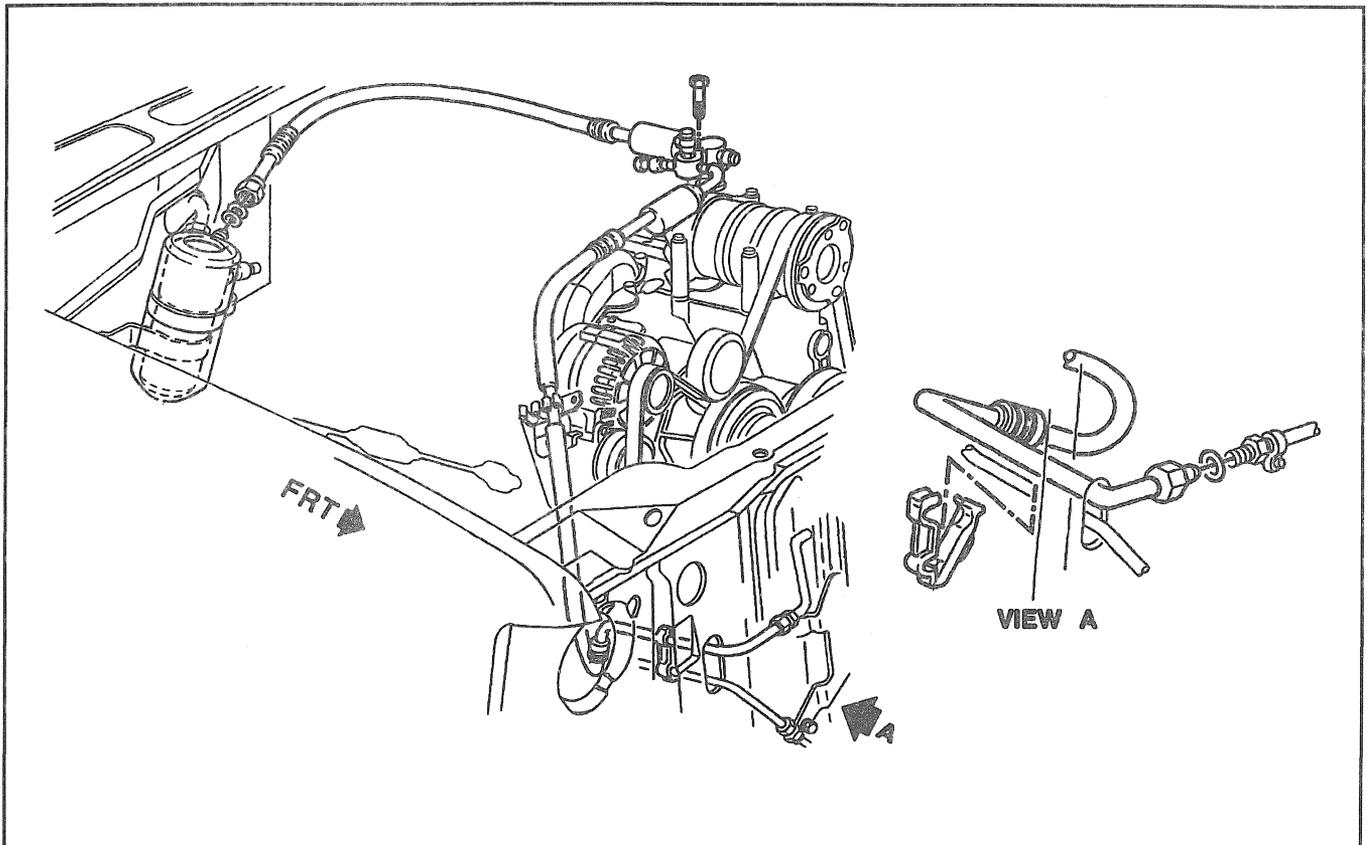

Figure 30—Compressor and Condenser Hose Assembly
- Pickup/Extended Cab Models (4.3L, 5.0L, 5.7L, and 7.4L Engines) Figure 30.
- Suburban/Crew Cab Models (7.4L Engines w/o Aux. Heater or A/C) Figure 30.
**↔ Remove or Disconnect (Figures 30 through 32)**
**↔ Install or Connect (Figures 30 through 32)**